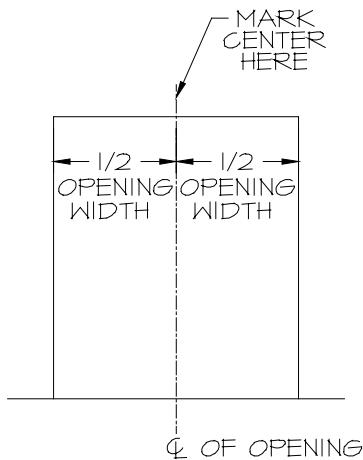

FIG. 5
- **Measure and mark center of door opening** on wall above lintel (Figure 5).